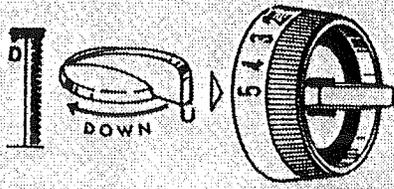

Fig. 4
4. Press both sides of the finished hem. The right side of the garment will show only the blind stitches. (Fig. 4)
4. Raise presser foot with needle in fabric and turn stitch width control to 5. Drop feed dogs and lower presser foot. Bartack about three stitches. See Fig. 4. Complete bartacking with needle on the left side of stitching. Point D. See Fig. 4